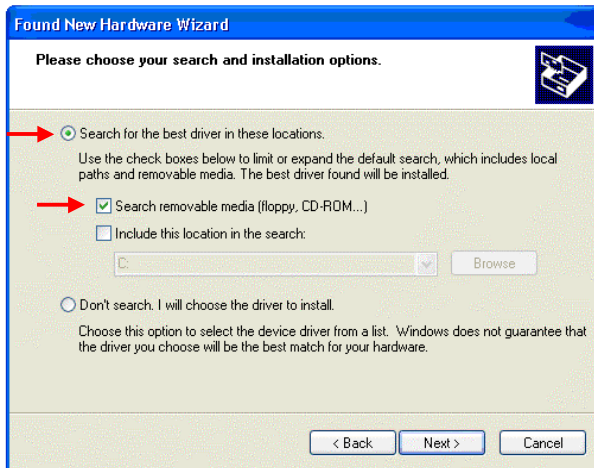

Figure 3 (Step 5)
- 5) Specify the location of the drivers: (see Figure 3 below)